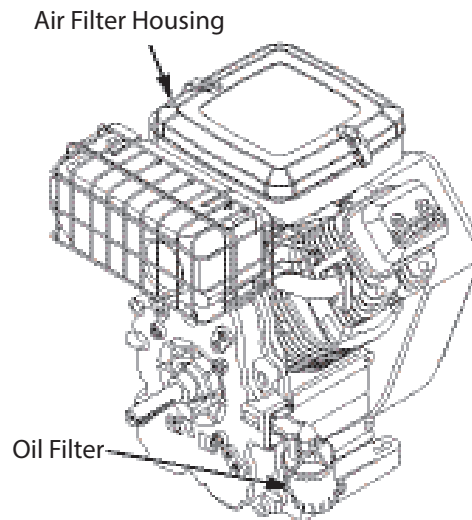

Figure 16 - Engine Filters
- Service the engine according to the Engine Maintenance Manual. The engine is equipped with a replaceable oil filter. Reference Figure 16 on page 25.